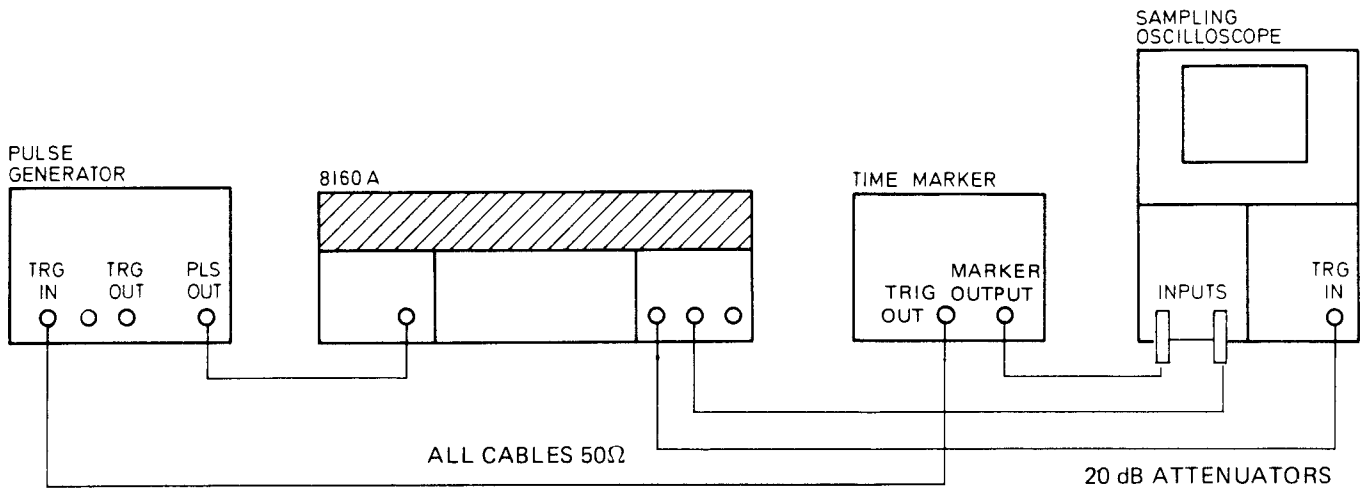

Figure 4-6. Delay/Double Pulse Test Set-up
1. Set up equipment as shown in figure 4-6. Set controls as follows: